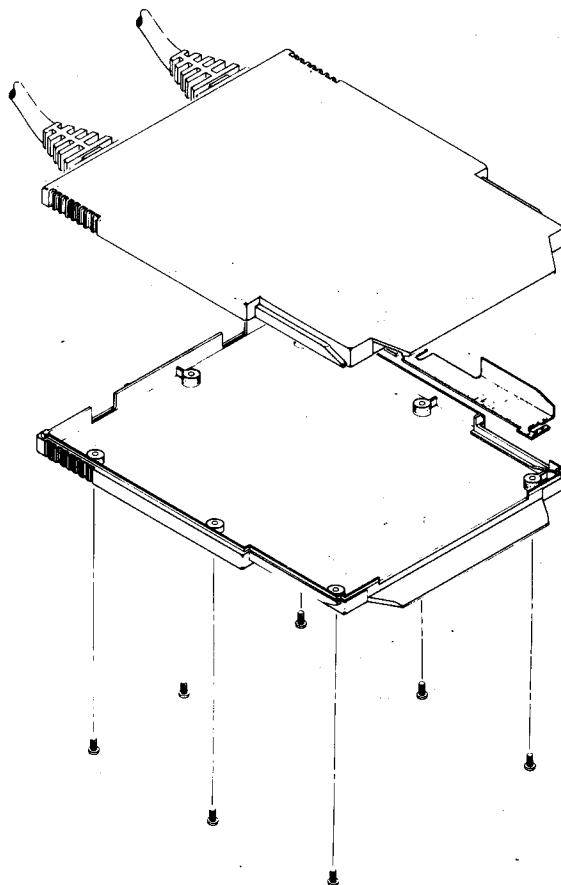

Figure 2-1. GPIO Interface Disassembly
2. Remove the seven screws shown in figure 2-1 and lift the cover, being careful not to lose the ground clip.